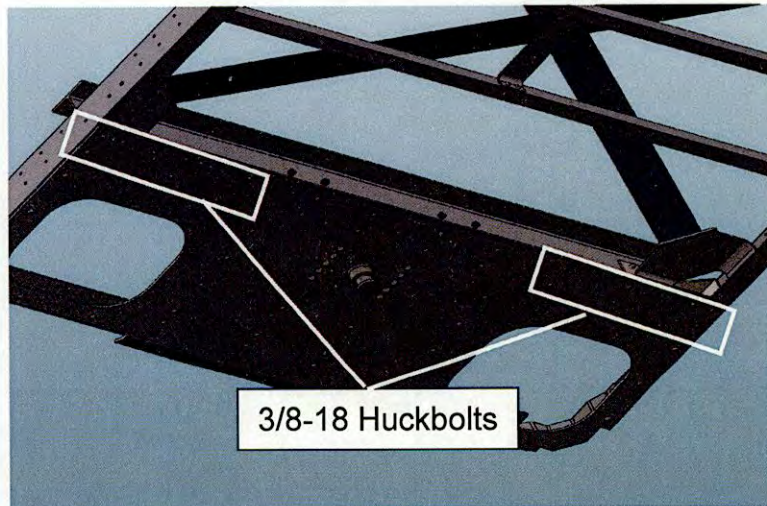

Figure 13
13. Finish connecting the beam to the bottom plate per Figure 13 on the next page. Insert 3/8-18 flat head Huckbolts and secure with collars.